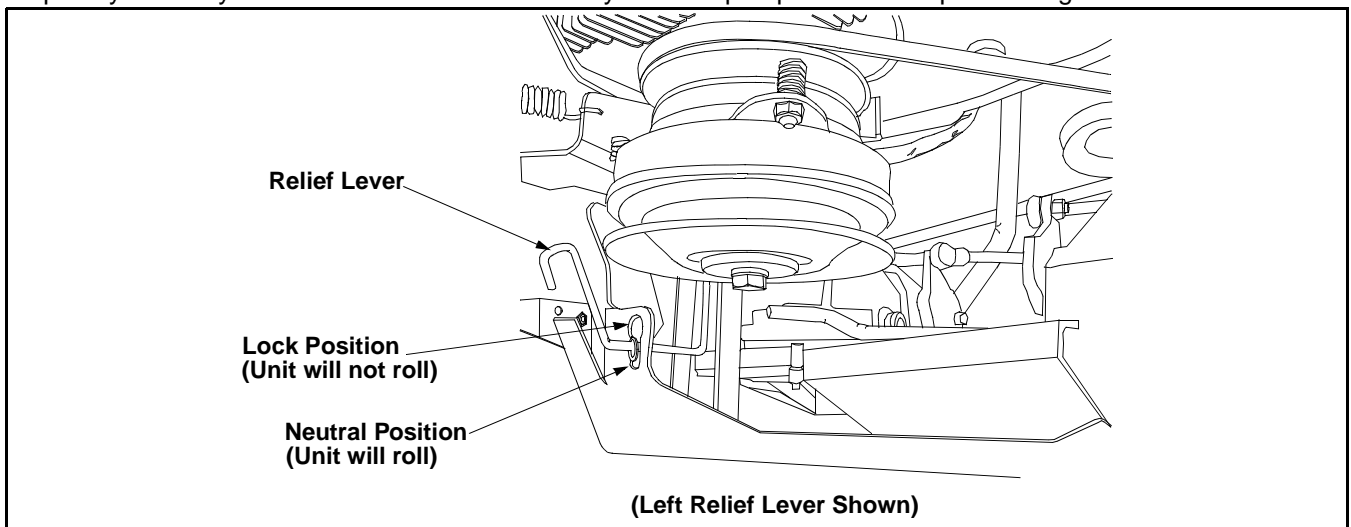

Figure 13
4. Slide the levers into the slots to relieve the hydraulic pumps. (See Figure 13)